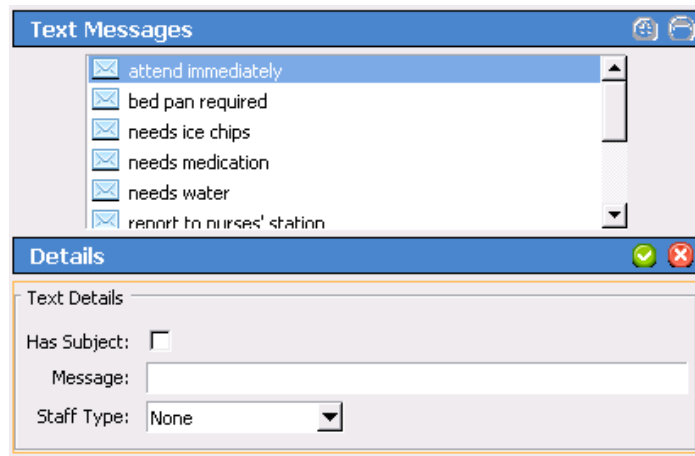

Figure 36: Add Custom Text Messages
2. Click on the **Add** button in the **Text Messages** pane to unlock the **Details** area as shown in *Figure 36*.